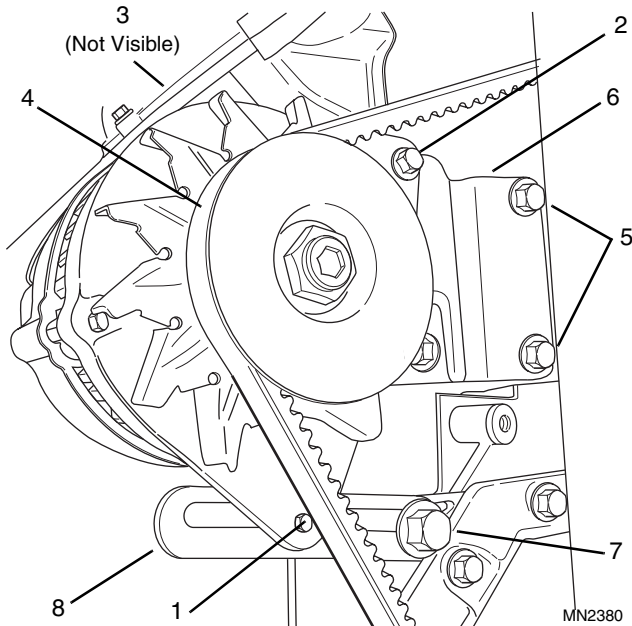
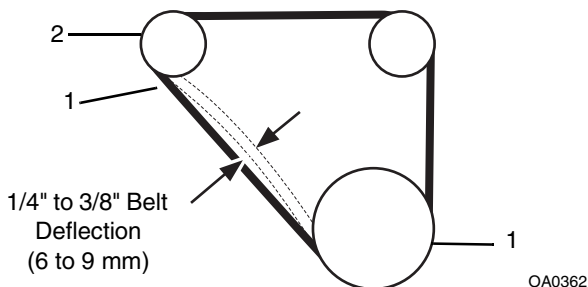

Figure 10-78 Alternator & Bracket Removal
Figure 10-79 Engine Fan Belt Tension
- u. Remove two capscrews (Fig. 10-78, 5), and remove the top alternator bracket (6) from the original engine.
- v. Remove one capscrew (Fig. 10-78, 7), and remove the bottom alternator bracket (8) from the original engine.
- w. Position the bottom alternator bracket (Fig. 10-78, 8) on the replacement engine, and loose install one capscrew (7).
- x. Install the top alternator bracket (Fig. 10-78, 6) to the replacement engine, and secure with two capscrews (5).
- y. Position the alternator on the replacement engine, and loose install the two top alternator mounting capscrews (Fig. 10-78, 2 & 3 - one capscrew at rear of alternator is not visible) and the bottom capscrew (1).
- z. **DO NOT** reuse a worn fan belt. Inspect the fan belt (Fig. 10-78, 4) for cracking, checking, fraying, or wear, and replace the belt if required. Position the fan belt on the alternator and replacement engine pulleys.
- aa. Check the belt tension midway between the crankshaft (Fig. 10-79, 1) and alternator pulleys (2). Deflection should be 1/4" to 3/8" (6 to 9 mm) with an applied force of 13 to 15 lb (6 to 7 kg). Tighten three capscrews (Fig. 10-78, 1, 2 & 3 - capscrew at rear of alternator not visible).